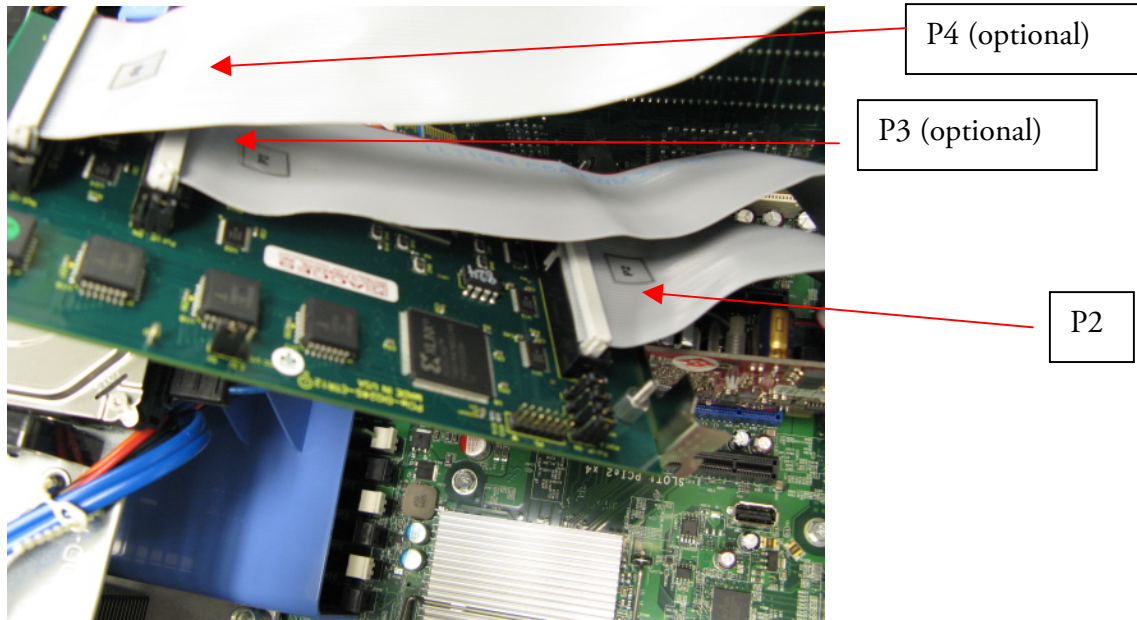

Figure 8. Optional connections.
8. Install Strain-relief with foam piece on bottom (shown in Figure 8).